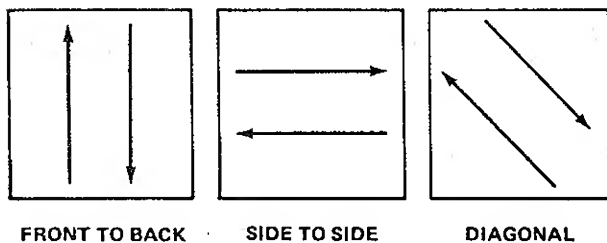

Figure 9
- h. Change patterns occasionally to eliminate matting, graining and a corrugated appearance. See diagrams (Figure 9).